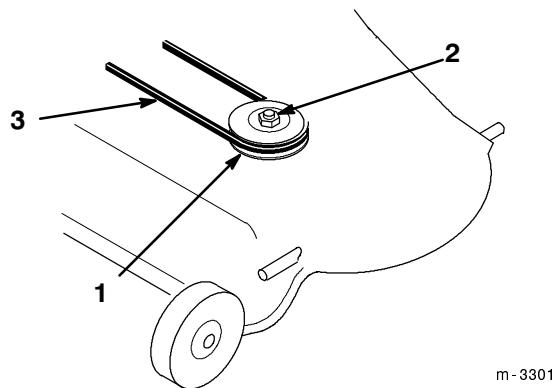

Figure 29
4. Slide the single pulley onto the spindle shaft. Secure with previously removed lock washer and nut (Fig. 29).
6. Install the existing mower belt by rotating it onto the pulley (Fig. 29).